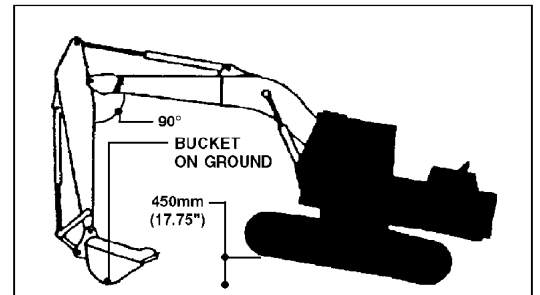

FIGURE 4.13
3. Operate the arm control until the arm is approximately at 90° with boom. See Figure 4.13.
4. Operate the bucket control until bottom of bucket is even with ground level. See Figure 4.13.
5. Adjust boom up or down until bucket is resting on the ground. With boom control, raise the machine until tracks are 450 mm (17.75") off the ground. See Figure 4.13.